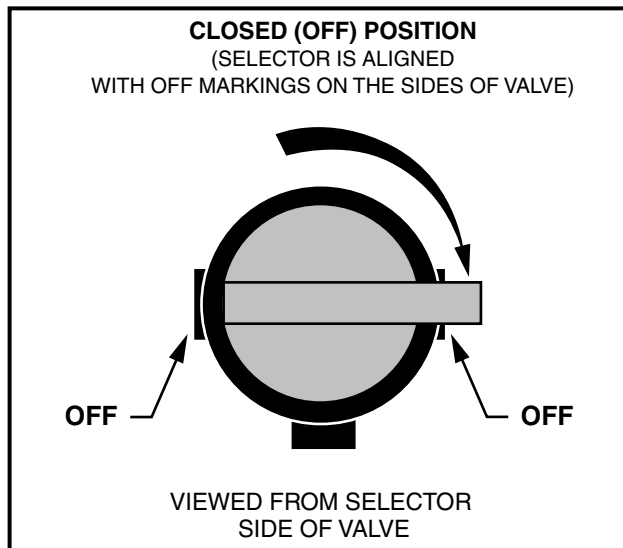

Figure 3-3 Fuel Shut-off Valve – Closed Position
- Turn fuel shut-off valve to closed (OFF) position (Figure 3-3, Page 3-3).
- 4.1. Place the Forward/Reverse handle in the NEUTRAL position and the neutral lockout cam in the SERVICE position. Turn the fuel shut-off valve to the closed (OFF) position (**Figure 3-3, Page 3-3**) and run the engine until fuel remaining in the carburetor and fuel lines is depleted and the engine stalls. Return the neutral lockout cam to the OPERATE position.